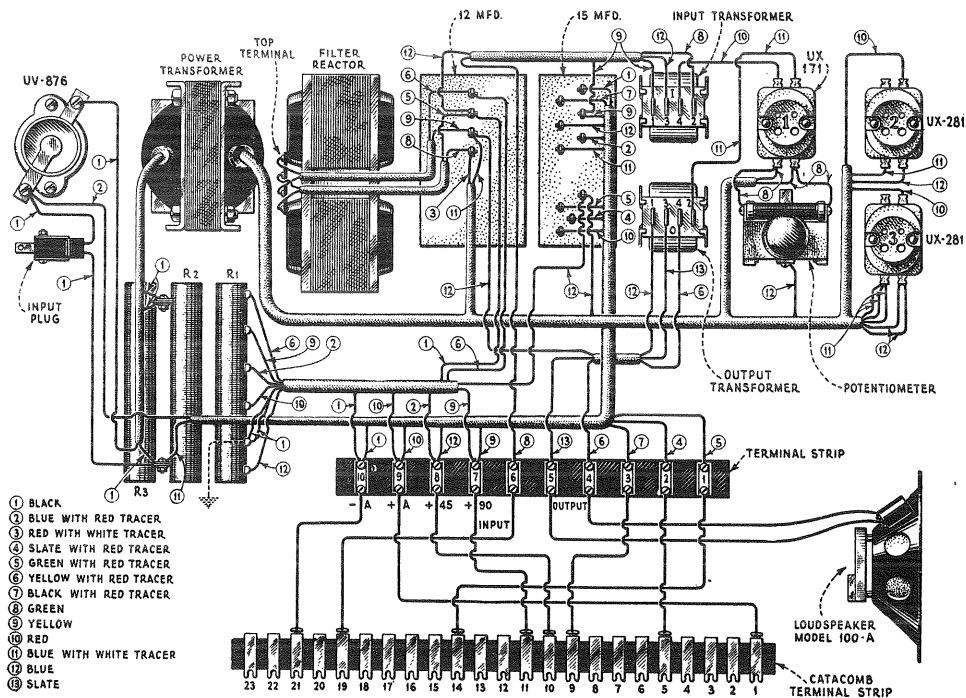
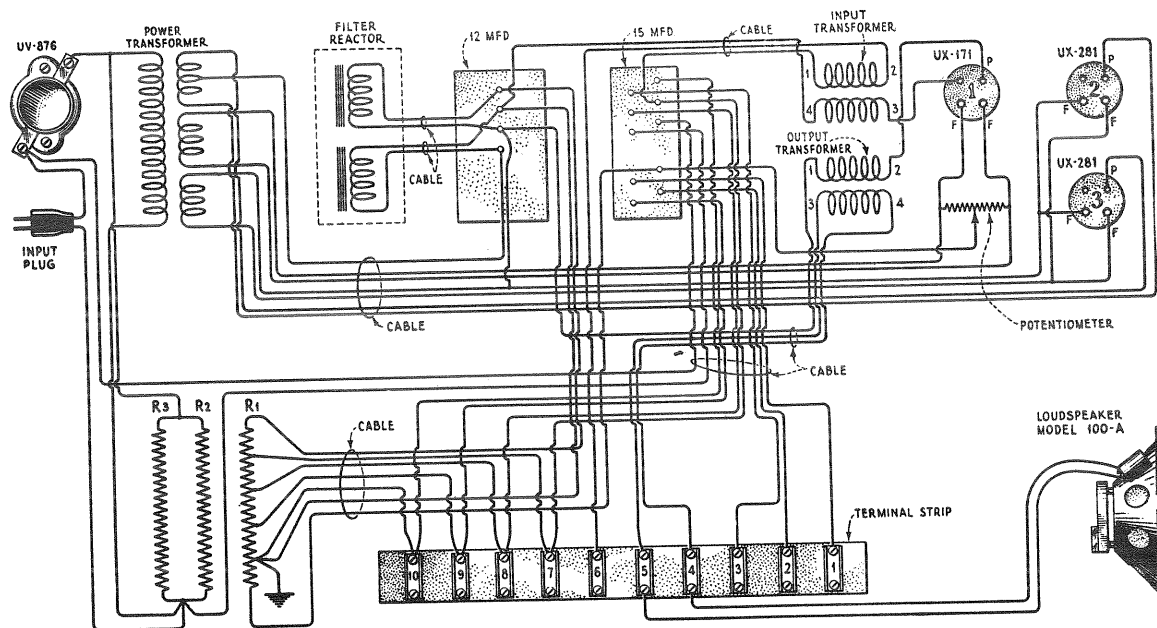
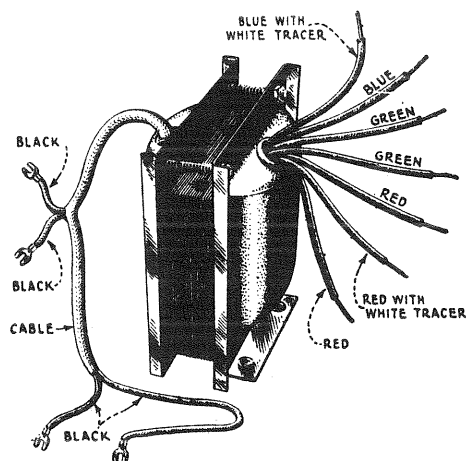

Figure 18—Pictorial view of R.P.A. unit and color scheme of R.P.A. cables
Figure 19—Continuity wiring diagram of the R.P.A. unit
Figure 24—Power transformer cable connections, showing color scheme
The continuity test covers all circuits of the Radiola 30A R.P.A. unit and the terminal numbers contained therein refer to those of Figure 19. Before running this test remove all connections from the terminal board at the rear of the R.P.A. unit (Figure 18), and also the input plug and the Radiotrons.
Any condenser not holding its charge is defective, and the entire assembly must be replaced. This is accomplished by releasing all leads, removing the strap that holds the two condenser blocks together, and replacing the block that contains the defective condenser. Figure 18 shows the correct connections to be used when replacing the defective assembly.
Any repair or replacement may easily be made, using the color scheme of connections contained in Figure 18, which covers all parts with the exception of the power transformer. Figure 24 illustrates the color scheme of the power transformer connections.
- (f) The new transformer is supplied with the primary cable complete and secondary leads having the same color scheme as in the secondary cable (Figure 24). Match up the secondary leads with the cable, and solder connections. Tape joints neatly, using only enough tape to properly insulate.